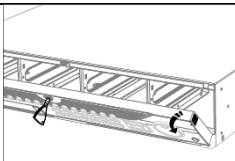

Figure 2-5 Open Front Panel
Step 2 Use attached key to unlock the front panel, and press buttons on both sides to open the front panel. Refer to Figure 2-5.